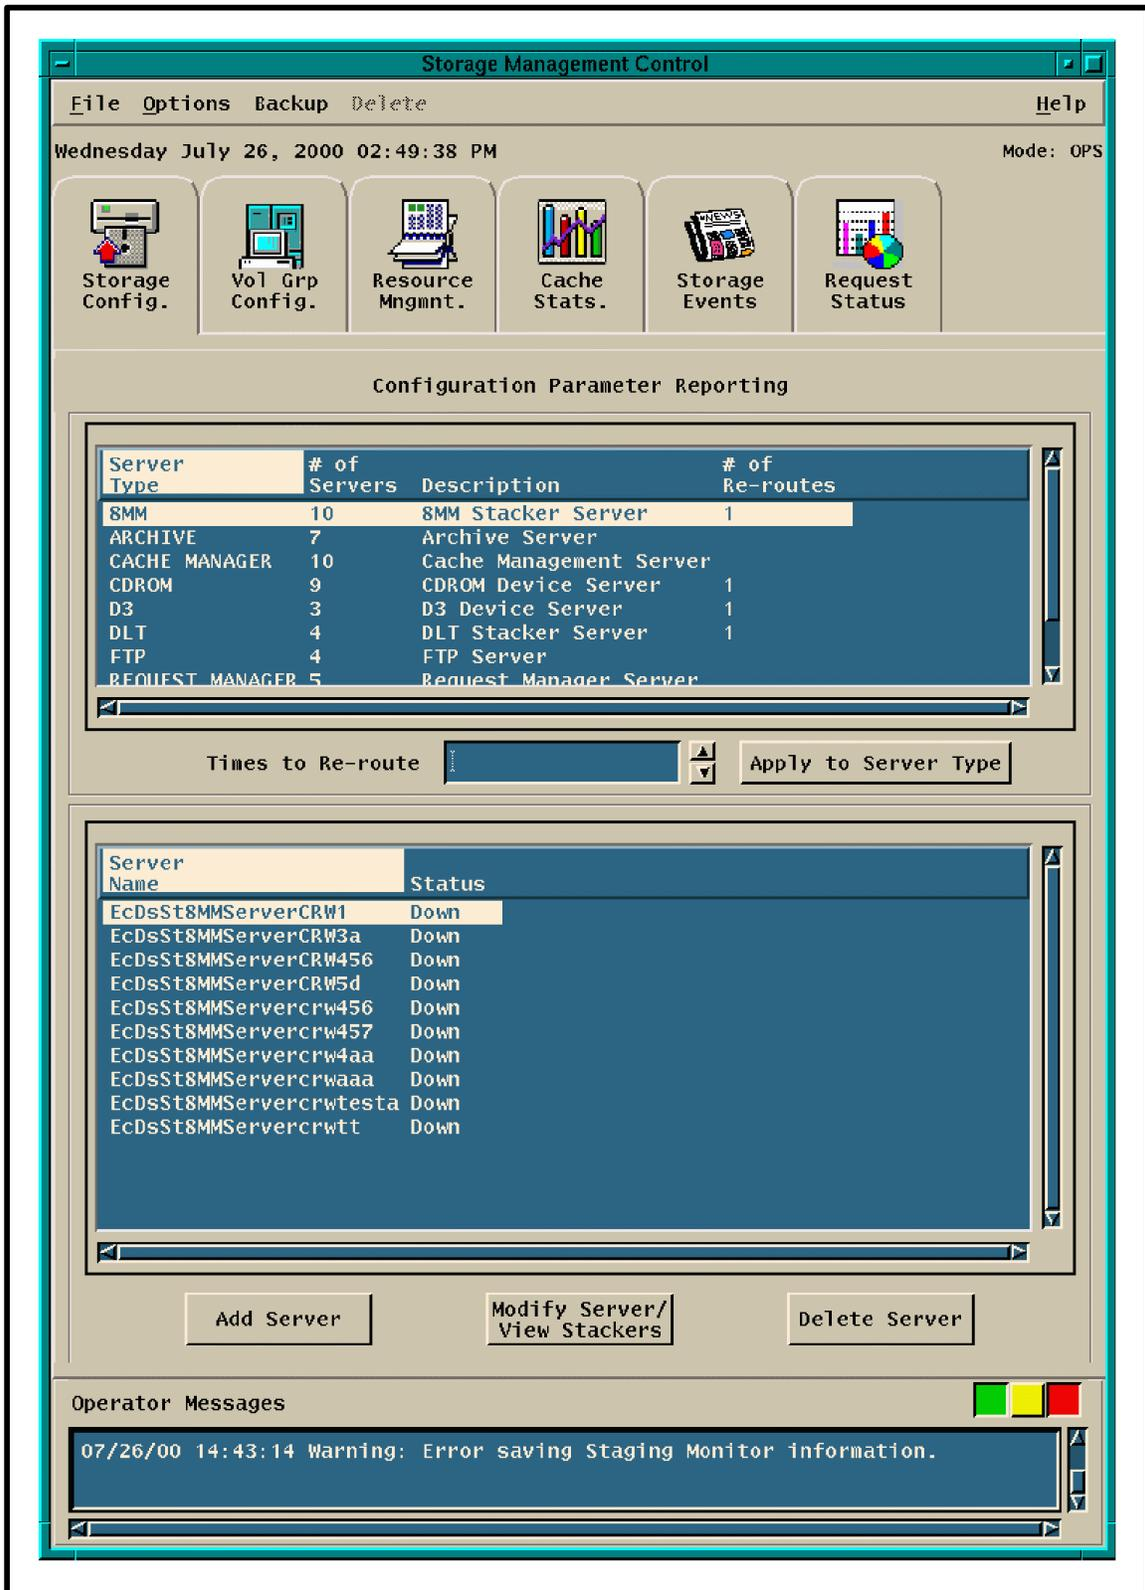

Figure 6. Storage Config. Tab (Storage Management Control GUI)
- The **Storage Management Control GUI Storage Config.** tab (Figure 6) is displayed.